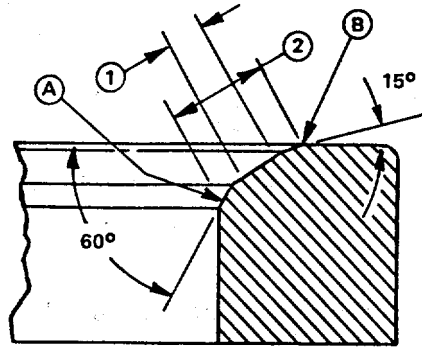

FIGURE 4-23. Grinding Valve Seats.
- (11) If required, grind area (A) with a 60 degree stone and (B) with a 15 degree stone to center the seat on the valve face. (FIGURE 4-23). Maintain the valve seat width limits.